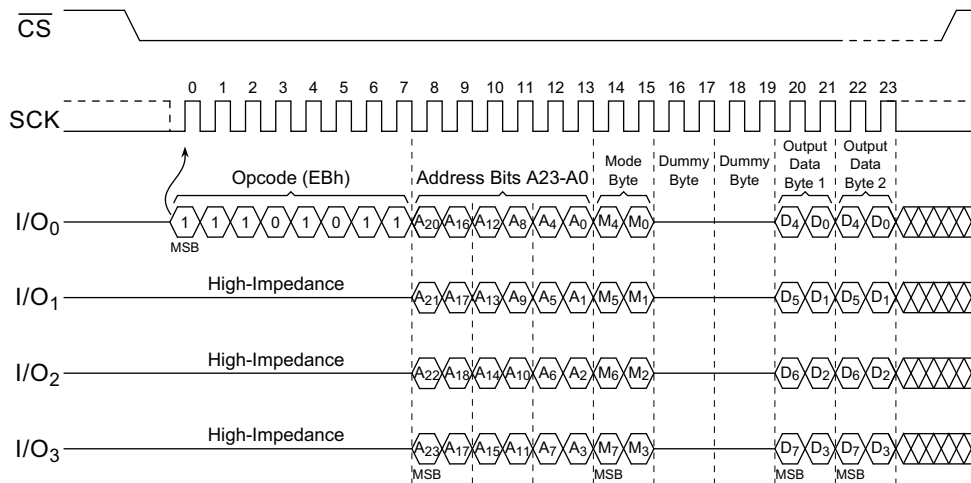

Figure 22. Fast Read Quad I/O Command (Initial command or previous M7-0 ≠ Axh, SPI mode)
The Fast Read Quad I/O command can further reduce command overhead through setting the Mode bits (M7-0) with following the input Address bits (A23-0), as shown in Figure 22. The upper nibble of the Mode (M7-4) controls the length of the next Fast Read Quad I/O command through the inclusion or exclusion of the first byte command code. The lower nibble bits of the Mode (M3-0) are don't care (X). However, the IO pins must be high-impedance before the falling edge of the first data out clock.